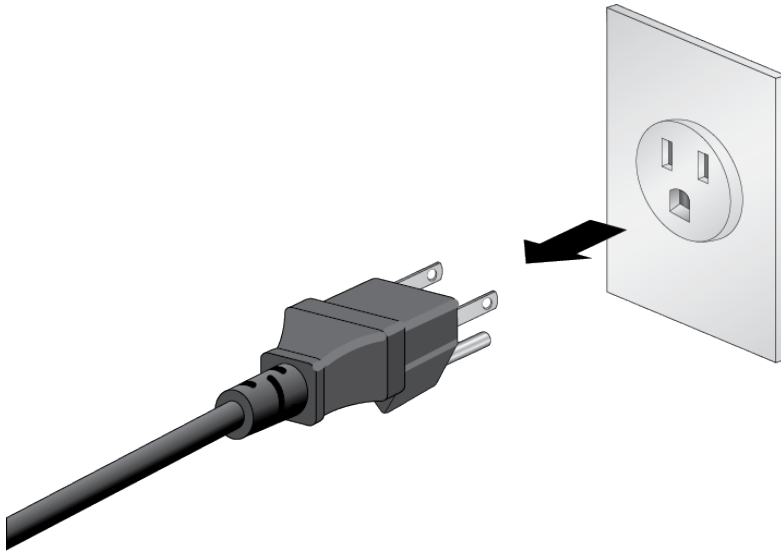

Figure 141. Disconnecting the AC Power Cord from the Power Source
1. Disconnect the AC power cord for the power supply from the AC power source. Refer to Figure 141.